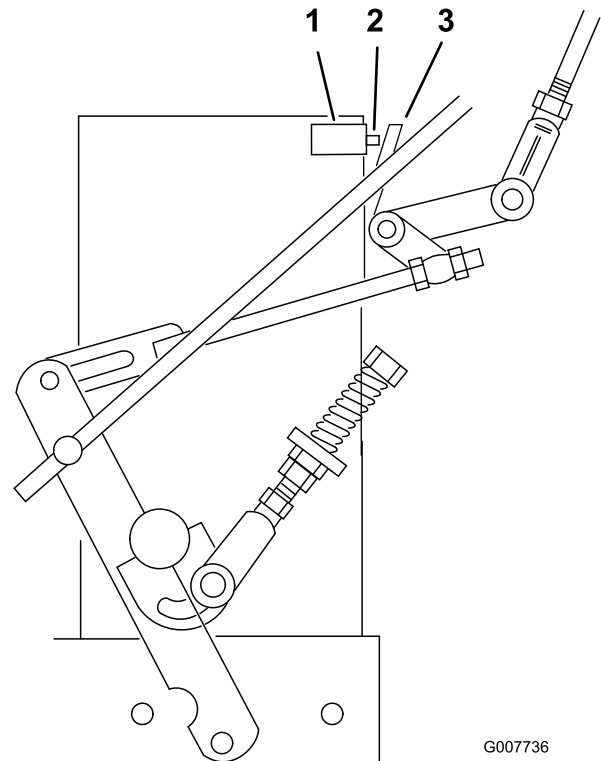

Figure 31
7. Check to make sure the safety switch is depressed and there is a 5/16 inch (8 mm) space between the actuating tab and the switch. (Figure 31).
8. If needed, adjust switch location to create the 5/16 inch (8 mm) space (Figure 31).